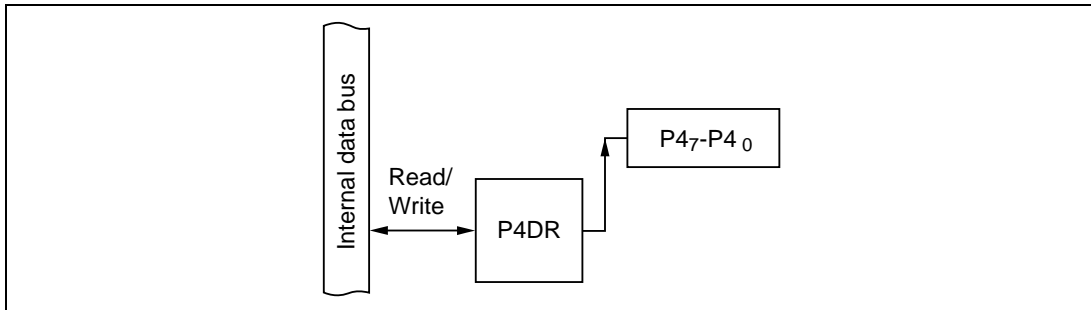

Figure 10-23 Output Port (Modes 1 to 7)
(2) Output Port (Modes 1 to 7): Figure 10-23 shows a block diagram illustrating the general-purpose output function. Table 10-16 indicates register read/write data. The value written in the port 4 data register (P4DR) is output at the pin. When read, P4DR returns the value written in P4DR.